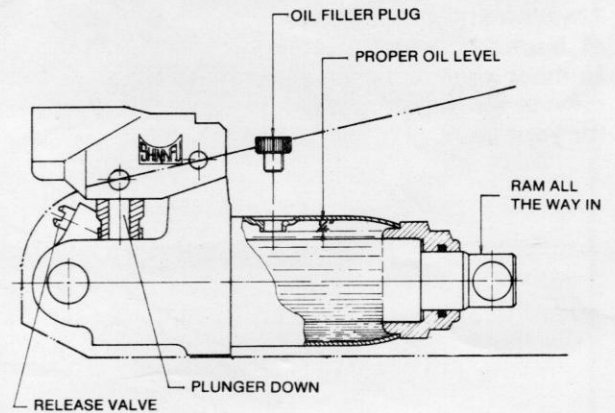

FIG. 2
- Position the jack on level ground and fully lower the saddle. Remove oil filler plug (See Fig. 2).
- Check ram and pump plunger (see Fig. 2) every few months for any signs of rust or corrosion. Clean as needed and wipe with an oily cloth.